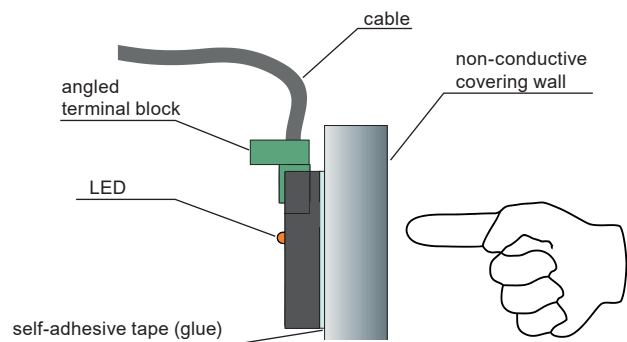

Fig. 1: CTS-41_-0 sensor installation
2. Install the sensor on the back side of the covering wall in a place which is intended for finger contact (see Fig. 1 and 2). The sensor can be installed behind a wall of an object made of non-conductive material (such as wood, chipboard, glass, ceramics, plasterboard, etc.). Maximum thickness of the covering wall is 30 mm.